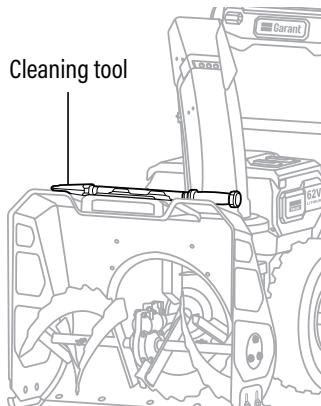

Fig.12
**NOTE:** Do not use your hand (fig. 12).